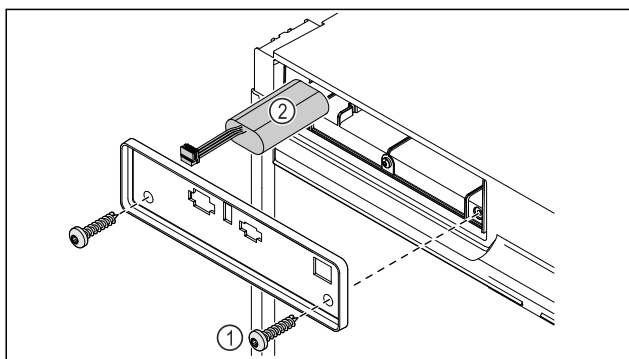

Fig. 200
- Unscrew the screws and remove the cover on the back of the appliance Fig. 200 (1).
- Disconnect and remove the battery Fig. 200 (2).